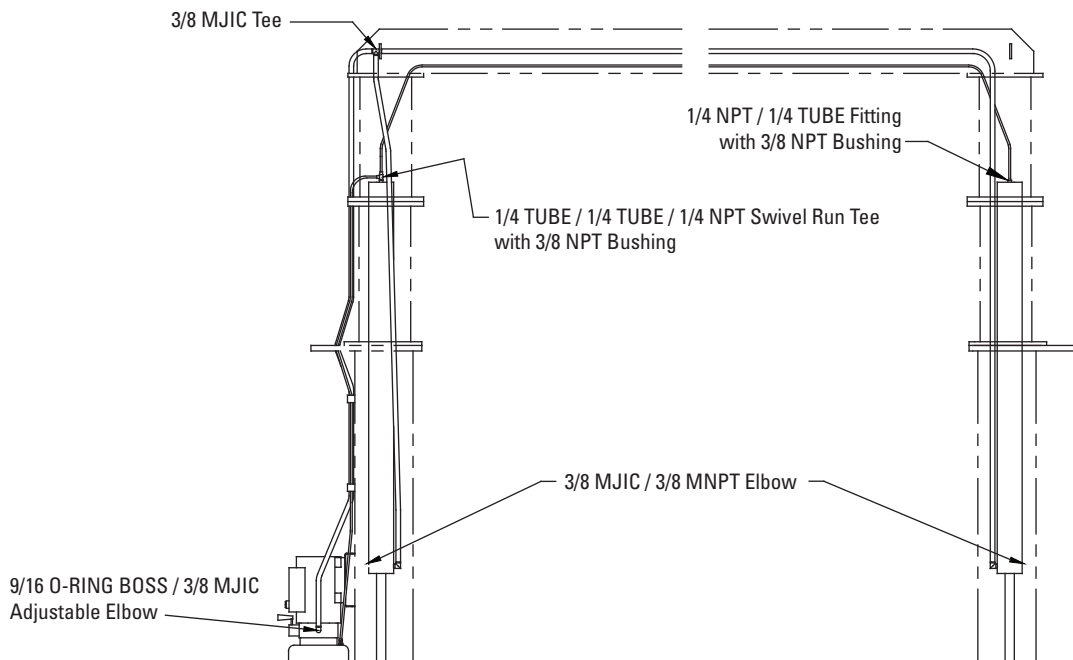

Figure 12
12. Hydraulic System, Figure 12.
14. Bleeding the hydraulic system, Figure 12.
15. Connecting the return lines, Figure 12.